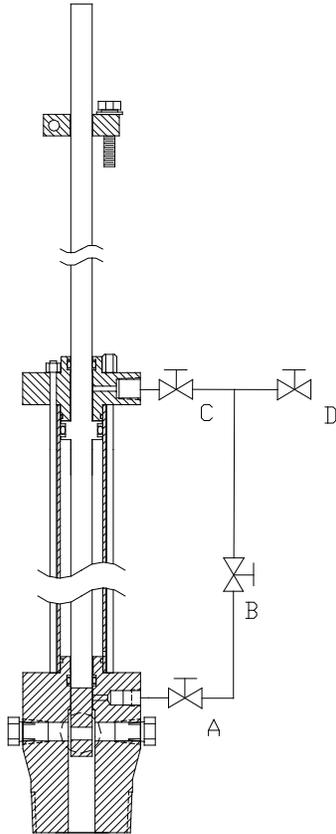

FIGURE 2
2.1.11 Close valve “D” (see Figure 2) and open valves “A” and “B” to allow pipeline pressure to valve “C” on the top cap. Open valve “C” slowly. This will allow the probe to insert into the pipeline to the desired length. Rotate the probe to align the lock collar and the top cap so that the lock down screw can be installed through the collar into the top cap. Tighten the lock down screw.
2.2.6 Open valves “A, B, & C” (Figure 2).